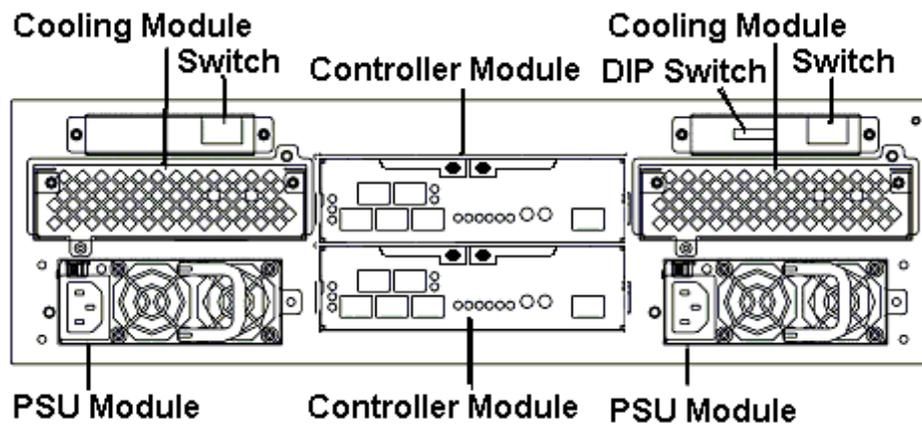
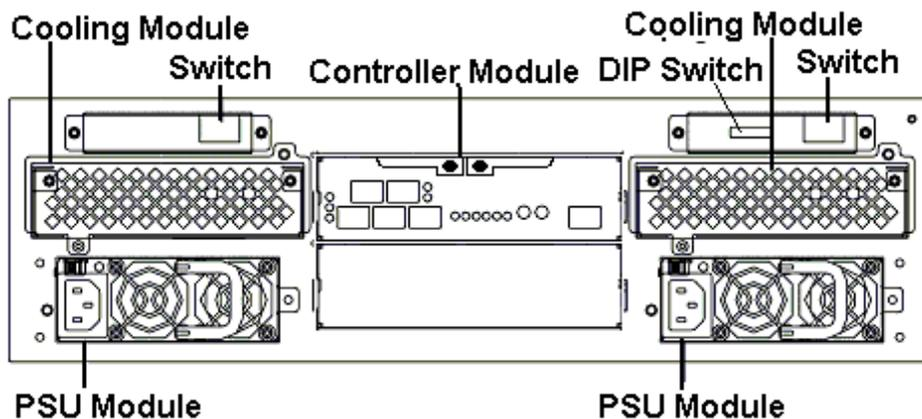
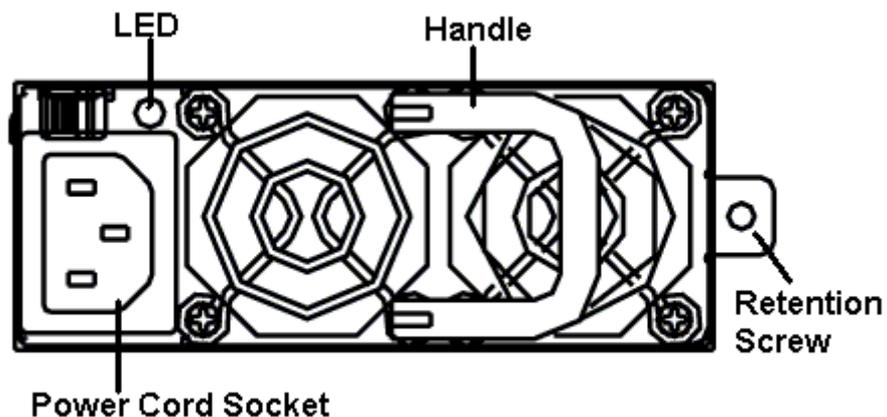
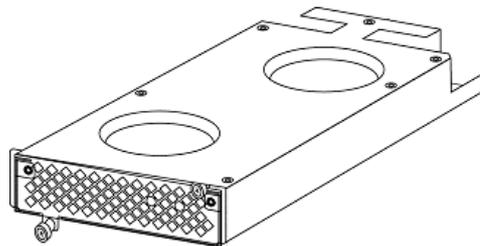

Figure 1-5: ES A16F-R1211-M2 Rear View
Figure 1-6: ES A16F-S1211-M2 Rear View
Figure1-12: PSU Module Rear View
Figure 1-13: Bottom View of a Dual-fan Cooling Module
The rear panel for the dual-redundant controller ES A16F subsystem is shown in *Figure 1-5* and the single controller ES A16F subsystem rear panel is shown in *Figure 1-6*. The rear panel provides access to all the components located in the rear section of the RAID subsystem enclosure.
The ES A16F subsystems are equipped with two redundant, hot-swappable, 1U, 460W PSU modules (see *Figure1-12*). The PSU modules are located on the rear panel of the subsystem. (See *Figure 1-5* and *Figure 1-6*).
ES A16F subsystems come with two (2) hot-swappable, redundant, dual-fan cooling modules (shown in *Figure 1-13*) pre-installed in the subsystem. Two (2) 9.7cm blowers are housed in each cooling module and provide a total of 61 CFM of airflow running at a speed of 3600rpm. These modules generate a cooling airflow from the front to the rear of the subsystem, extracting the heat generated by the SATA or PATA hard drives. The two (2) cooling fan modules are installed directly above the PSUs. (See *Figure 1-5* and *Figure 1-6*).